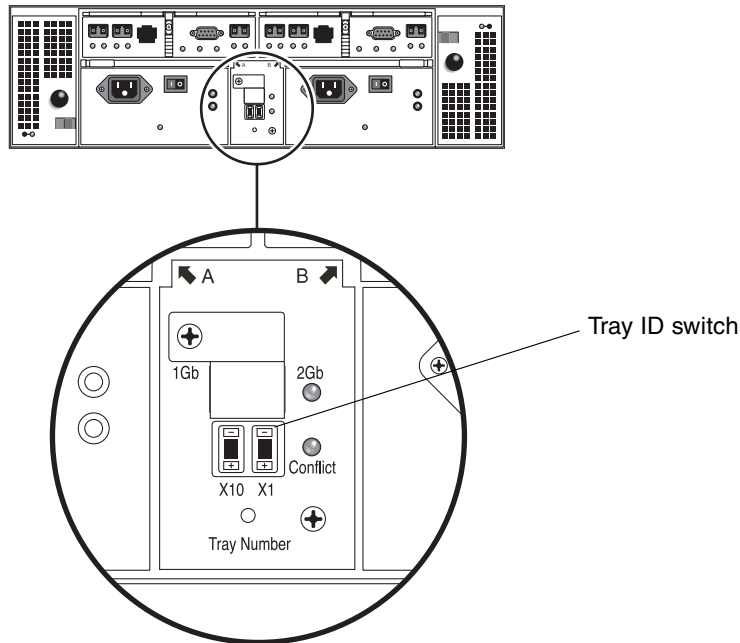

FIGURE 2-36 Tray ID Switch
1. Locate the Tray ID switch at the back of the controller tray, between the two power supplies (FIGURE 2-36).